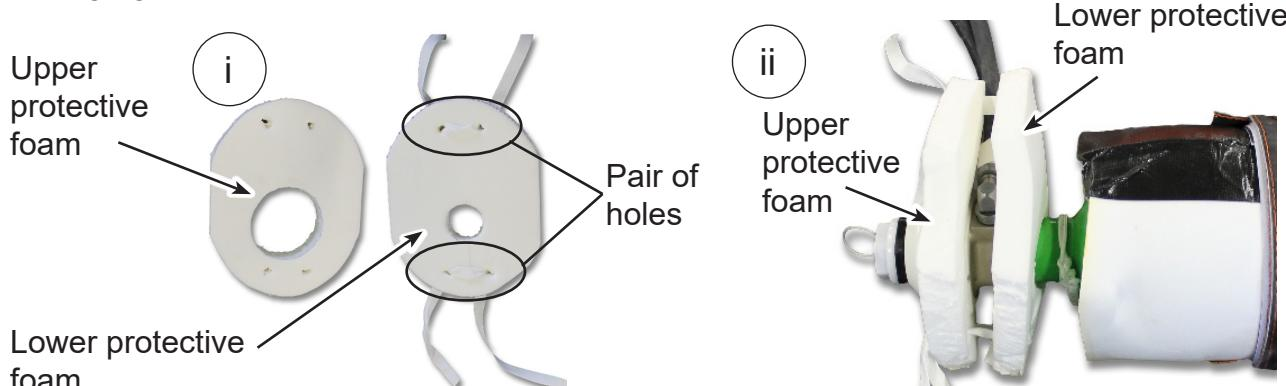

FIGURE 866
8.14 Put two lengths of 13 mm webbing through each pair of holes in the lower protective foam. Refer to **Figure 866 (i).**
8.17 Tie the 13 mm webbing to attach the upper and lower pieces of N-Series protective foam together. Refer to **Figure 866 (ii).**